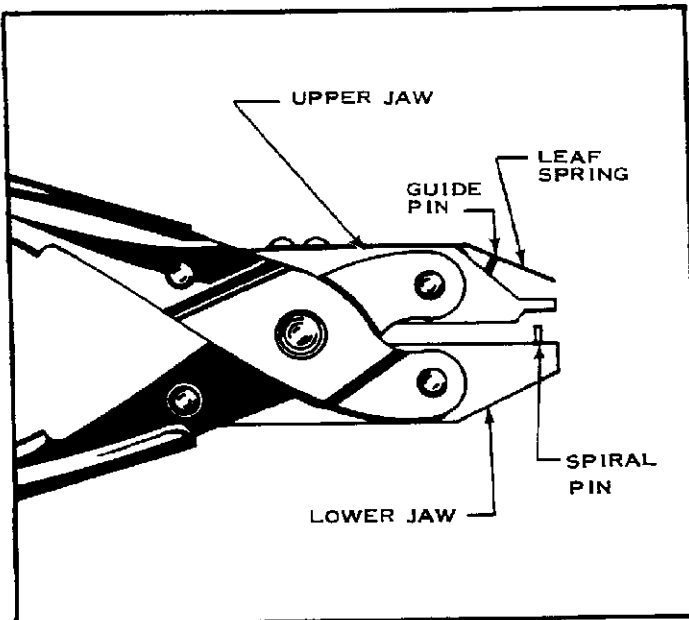

Fig. 4
- (a) Lift Leaf Spring on Upper Jaw of Tool and place Guide Pin in Receptacle in Upper Jaw as shown in Figure 4.
- (b) Place Spiral Pin into Lower Tool Jaw as shown in Figure 4.